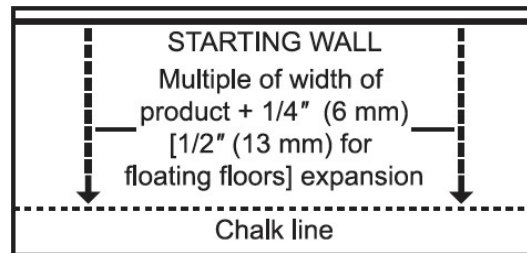

Figure 5
- In at least two places, at a minimum of 18" (46 cm) from the corner, measure out equal distance from the starting wall (**Figure 5**) and snap a chalk line. The measurement must be the sum of the width of the flooring plus an additional 3/8" (9.5 mm) to allow for 1/4" (6 mm) expansion space and the width of the tongue. Allow 1/2" (13 mm) expansion when installing floating floors.
- In at least two places, at least 18" (46 cm) from the corner, measure out equal distance from the starting wall (see **Figure 5** on page 9) and snap a chalk line. The measurement must be the sum of the width of the flooring plus an additional 3/8" (9.5 mm) to allow for 1/4" (6 mm) expansion space and the width of the tongue.